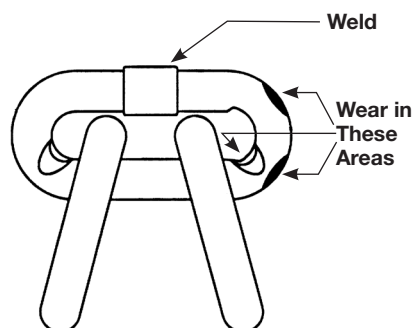

Figure 6 - Chain Inspection
1. Chain for excessive wear or stretch (See Figures 6 and 7, page 6).